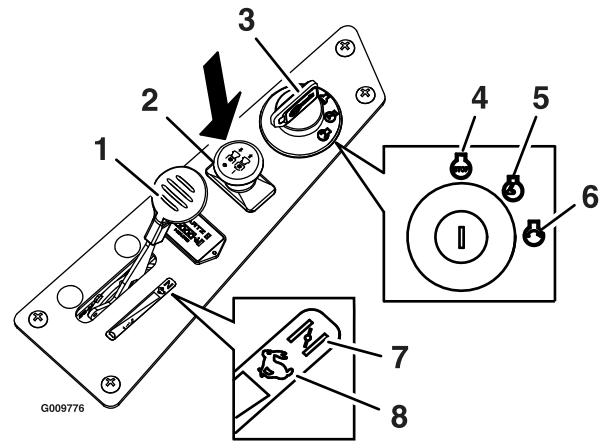

Figure 7
2. Disengage the blades by moving the blade control switch to Off (Figure 7).
3. Move the lever forward, beyond the detent, to engage the choke before starting a cold engine (Figure 7).
4. Turn the ignition key to Start to energize the starter. When the engine starts, release the key (Figure 7).
Set throttle to midway position. Push the blade control switch to Off to disengage the blades (Figure 7).